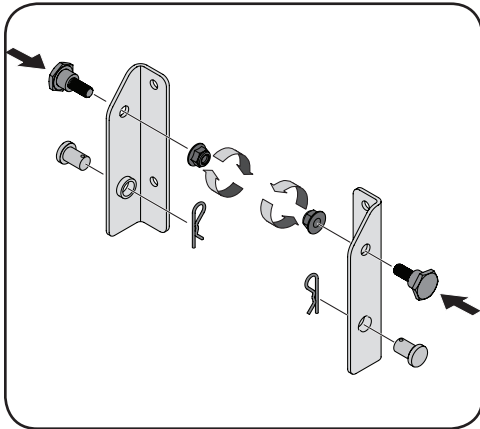

Figure 4-1
1. If not already installed by the factory, install a shoulder bolt from your hardware pack on each bracket, securing them with flange lock nuts also included in the hardware pack. Refer to Figure 4-1.
2. If already installed in the brackets, remove the clevis pins and clips, retain for later instructions. Refer to Figure 4-1.